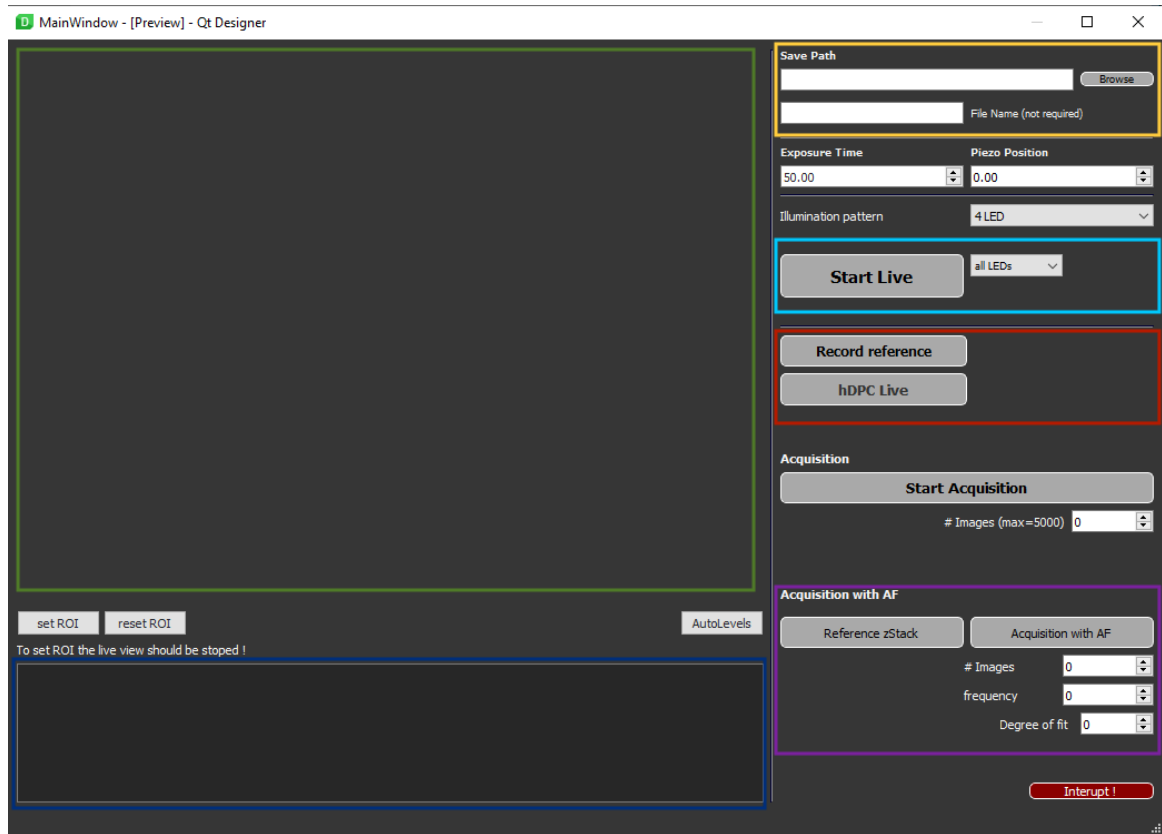

Figure 3: GUI window for oblique illumination setup
1. Insert or browse to path to the designated save folder (figure 3, yellow box). Optionally, you can specify file name.
2. You have the option to choose whether to use all four LEDs for illumination while viewing the live feed or to select a specific LED. It is advisable to check the illumination provided by each LED and adjust the fiber positions around the objective if necessary, just prior to acquisition (figure 3, blue box).
3. Then the reference images need to be acquired. In our case (piezo nanopositioner with range of 100 μm) we use by default the z-stack in the range of -45:45 μm with step of 10 μm (figure 3, red box). These images are further averaged and saved.
4. Further the reference z-stack need to be recorded (figure 3, green box).
5. In order to start the acquisition with active autofocusing, enter the number of images and the autofocusing frequency (figure 3, purple box).